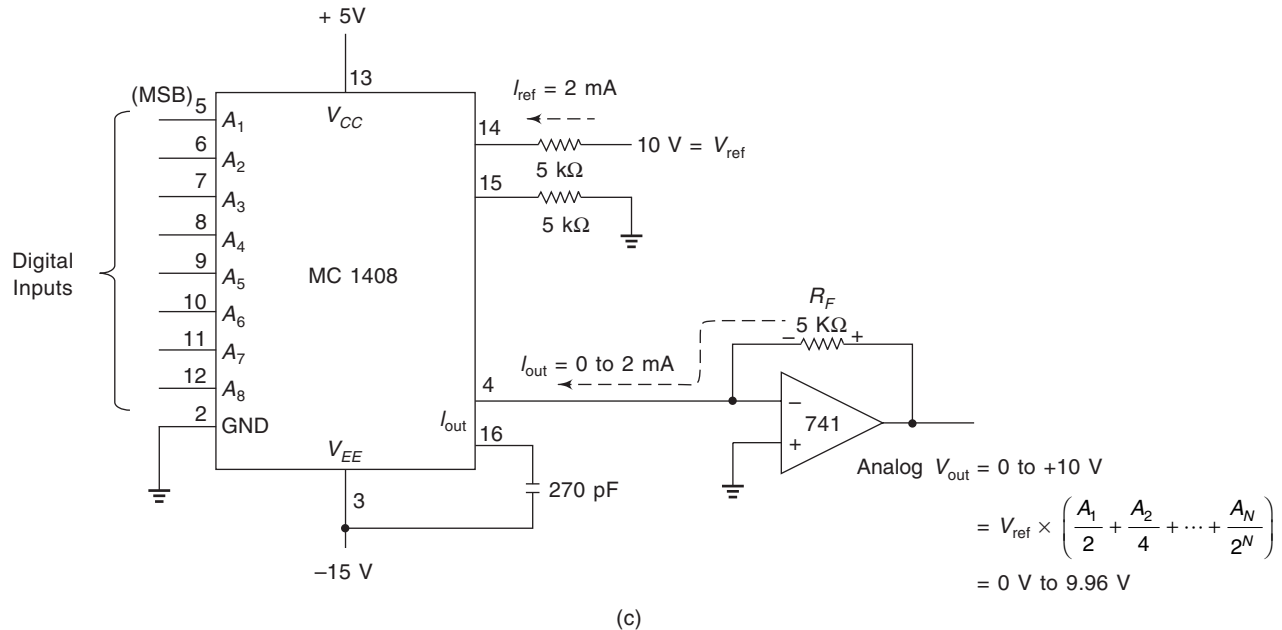

Fig. 17.10 The MC 1408A D/A Converter, (a) Block Diagram, (b) Pin Configuration, (c) A Typical Application of the DAC IC-MC1408.
One very popular and inexpensive 8-bit DAC is the DAC 0808 and its equivalent, the MC1408. A block diagram and pin configuration of the IC are given in Fig. 17.10(a) and (b). A typical application of the IC is given in Fig. 17.10(c).
The circuit in Fig. 17.10(c) is set up to accept an 8-bit digital input and provide a 0 to +10 V analog output. A reference current (I_{ref}) is required for the D/A and is provided by the 10 V, 5 k Ω combination shown. The negative reference (pin 15) is then tied to ground via an equal size (5 k Ω) resistor.
A more accurate method uses an op-amp such as the 741 shown in Fig. 17.10(c). The output current flows through R_F , which develops an output voltage equal to $I_{out} \times R_F$. The range of output voltage can be changed by changing R_F and is limited only by the specifications of the op-amp used.
17.25 Determine I_{out} and V_{out} in Fig. 17.10(c) if the following binary strings are input at A_1 to A_8 : (a) 1111 1111, (b) 1001 1011.